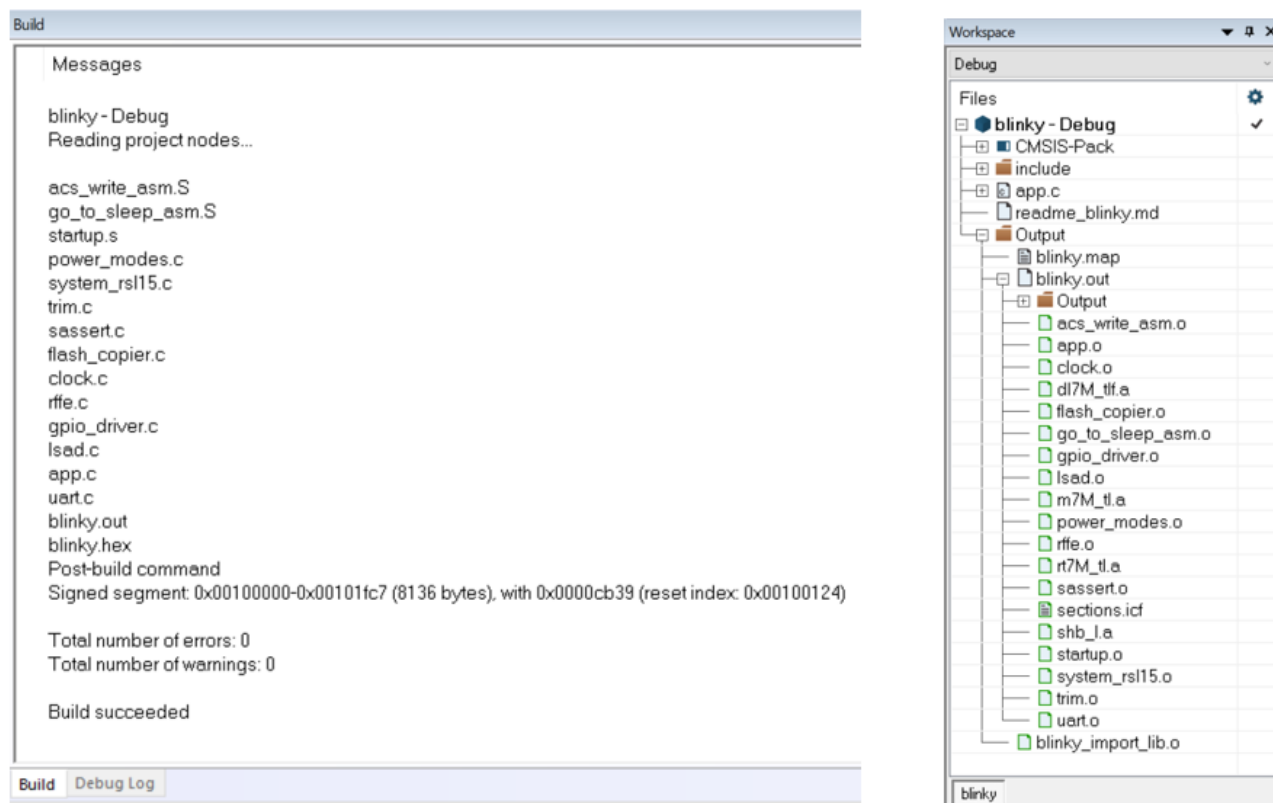

Figure 41. Example of Build Output
2. When the build is running, the output of the build is displayed in the Build Output view in the IDE, as illustrated in the figure "Example of Build Output" (Figure 41).